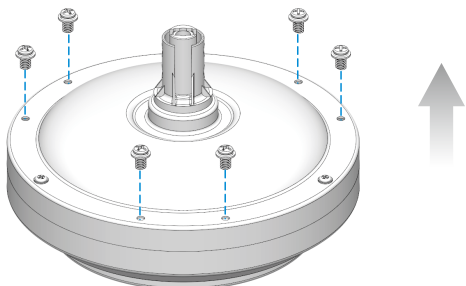

Fig. 1.1
- 1.1 Remove the blade screws from the motor head, as illustrated in Fig. 1.1.